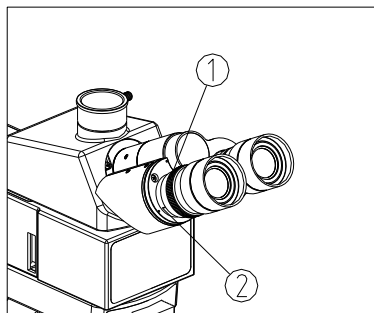

Fig.24
After the image is clear in the right eyepiece, observe the left eyepiece with the left eye, if the image is not clear enough, rotate the diopter adjustment ring ① until the image is clear (See Fig. 24).